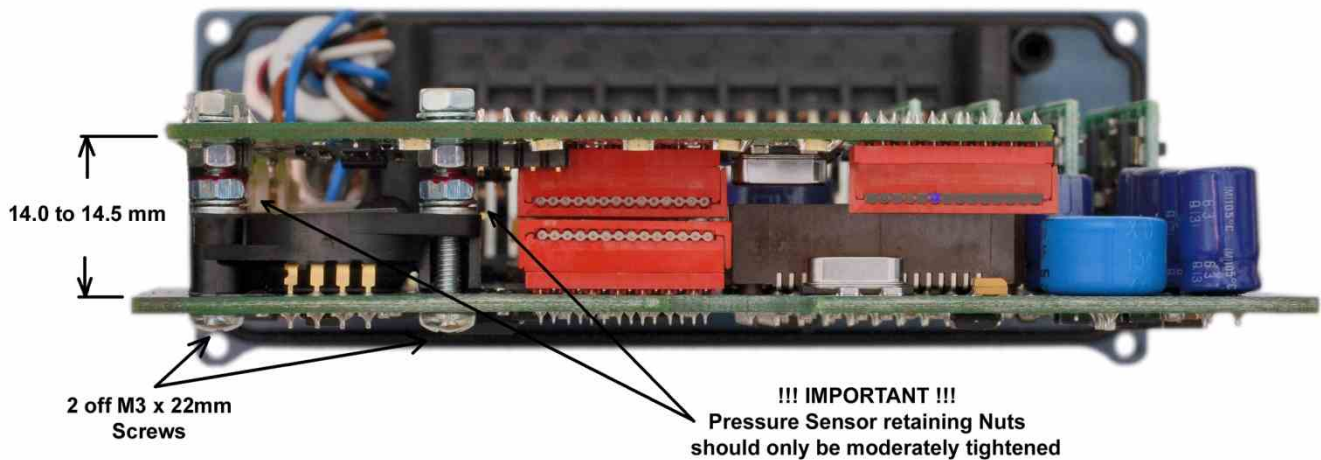

Figure 10 Marine ECU mounting (note: reduced height)
2.5 **MARINE ECU INSTALLATION.** SM3MR & SM4MR ECUs require shorter screws and a revised mounting height (see Figure 10). Refer to section 2.3 for general mounting considerations.